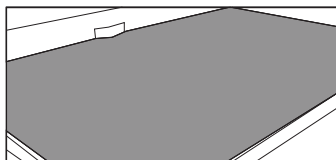

Fig. 5
STEP 04 The griddle top is ready for another layer of oil when it stops smoking. Repeat **STEP 03** 3-4 times, or until the griddle surface is black. (See Fig. 5)